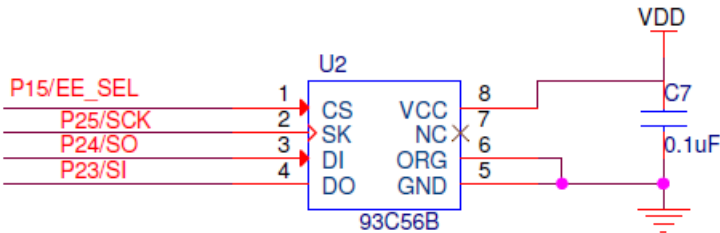

Figure 20. Serial EEPROM
The 93C56B is enabled through the Chip Select pin (CS) and accessed via a 3-wire serial interface consisting of Data Input (DI), Data Output (DO), and Shift Clock (SK). Upon receiving a Read instruction at DI, the address is decoded, and the data is clocked out serially on the DO pin. Figure 20 shows the Serial EEPROM schematics.